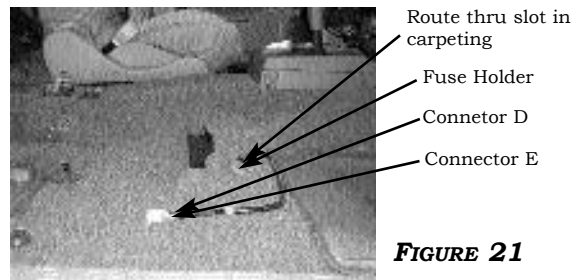

FIGURE 21
1. FROM THE CENTER CONSOLE AREA ROUTE THE TWO THREE PIN CONNECTORS "D" AND "E" UNDER THE CARPET TOWARD THE PASSENGER DOOR, EXITING THROUGH THE CARPET OPENING UNDER THE PASSENGER'S SEAT. CONNECT "D" TO PUMP/POUCH. (FUSE HOLDER "C" SHOULD BE POSITIONED IN CARPET OPENING FOR SERVICE ACCESS). **FIGURE 21**